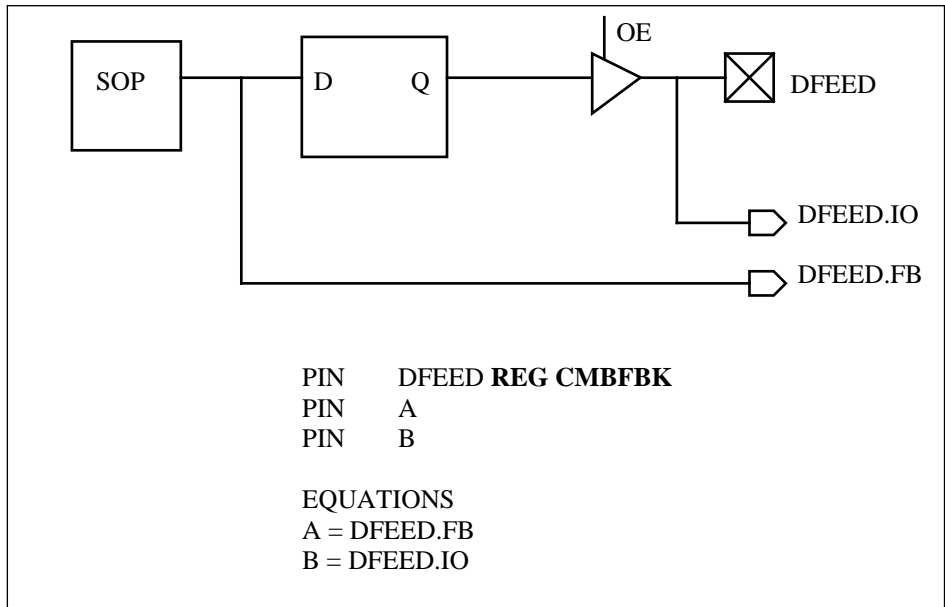

Figure 4-12 Combinatorial Dual Feedback
Figures 4-12 through 4-15 show further examples of the use of the .IO extension in dual feedback.
- Figure 4-12 shows how PIN A takes on the value of the combinatorial feedback path of DFEED, while PIN B takes on the value of the pin feedback path for DFEED.